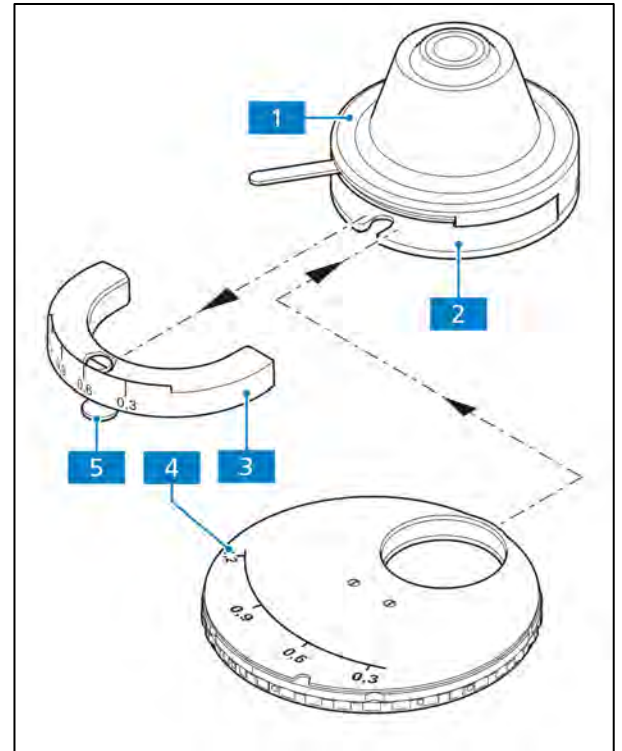

Fig. 3-49 Inserting the modulator disk in the 0.9/1.25 H condenser
- Remove the condenser (Fig. 3-49/1) from the condenser carrier (see section 3.1.13).
- Loosen the clamping screw (Fig. 3-49/5) of the condenser's dial segment (Fig. 3-49/3) with the Allen wrench (AF 3) and pull out the dial segment.
- Slide the modulator disk (Fig. 3-49/4) with its two-pronged forked opening pointing forward into the condenser. Make sure that the disk engages in the guide on both inner sides of the condenser. The guide serves as a stop for the modulator disk. The pin of the disk's clamping screw must slide into the orientation groove of the condenser.